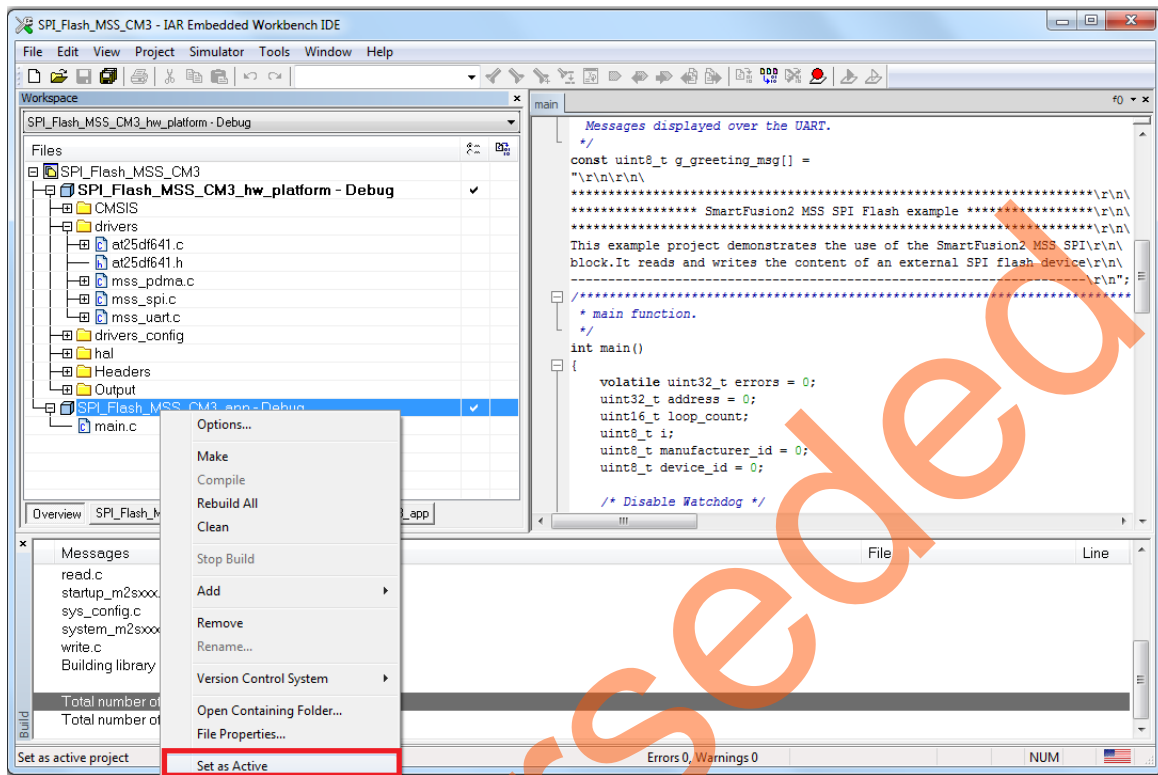

Figure 33 • IAR Workspace - SPI_Flash_MSS_CM3_app Set as Active
18. Right-click on the **SPI_Flash_MSS_CM3_app - Debug** project name and select **Set as Active** as shown in Figure 33.